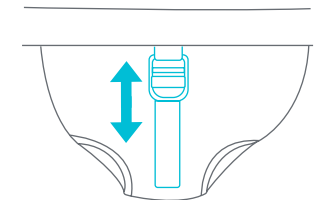

Fig. 2c
- To adjust the seat strap, push up on the strap to tighten. Flip the clip to loosen the seat (Fig. 2c).